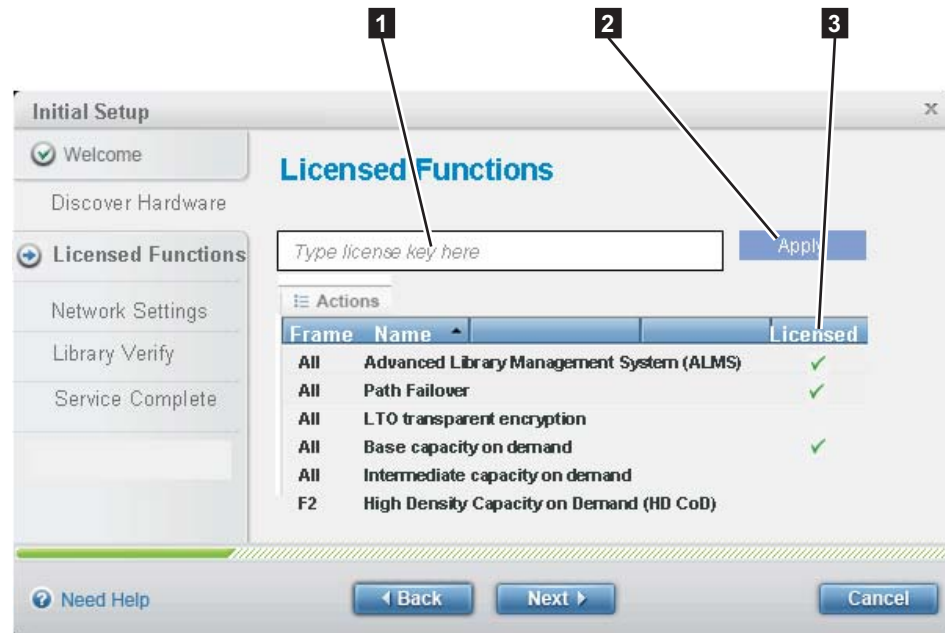

Figure 30. Licensed features
9. One by one, select the licensed feature in the table, and then enter the license key in the field at the top of the page (**1** in Figure 30). Click **Apply** (**2**). A green check mark will appear in the **Licensed** column.
11. Verify that check marks appear in the **Licensed** column (**3** in Figure 30) on the **Licensed Functions** page for each of the licensed functions installed on the library. Click **Next**.